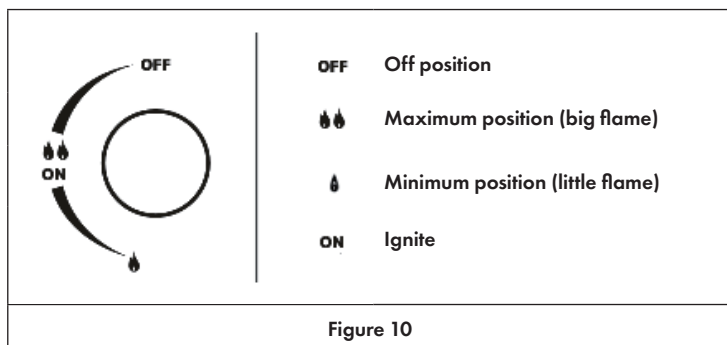

Figure 10
1. Press and turn clockwise the knob corresponding to the burner you wish to use from "Off" position, until it reaches the "Maximum" position (corresponding to the big flame, see figure 10) and place a lighted match close to the burner.
1. The command of lighting is integrated in the control knob. Press and turn anticlockwise the knob corresponding to the burner you wish to use from "Off" position, until it reaches the "Maximum" position (see figure 10) corresponding to the big flame. Automatically the ignition spark shoots. Keep the knob pressed until flame ignition. Matches can be used to light the burners in a blackout.